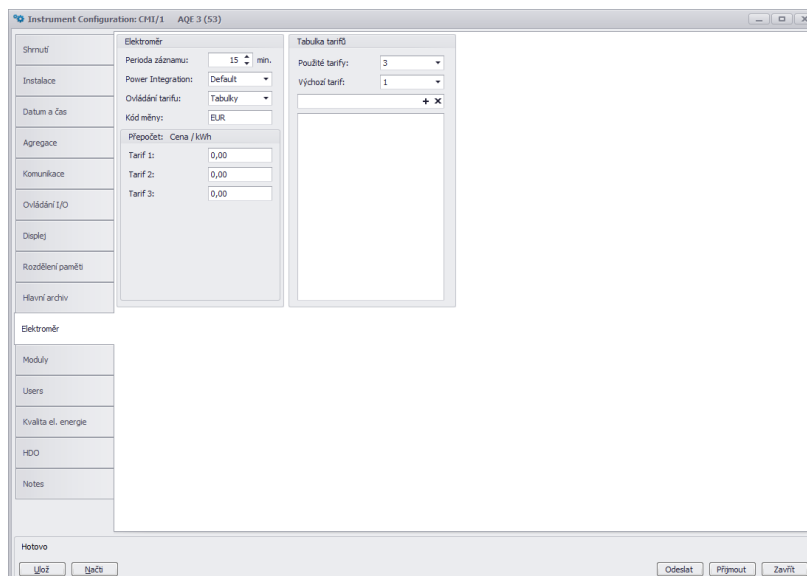

Figure 20: ENVIS.Daq — setting the electricity meter and tariffs and electricity prices.
2.4.7 Electricity meter (fig. 20)